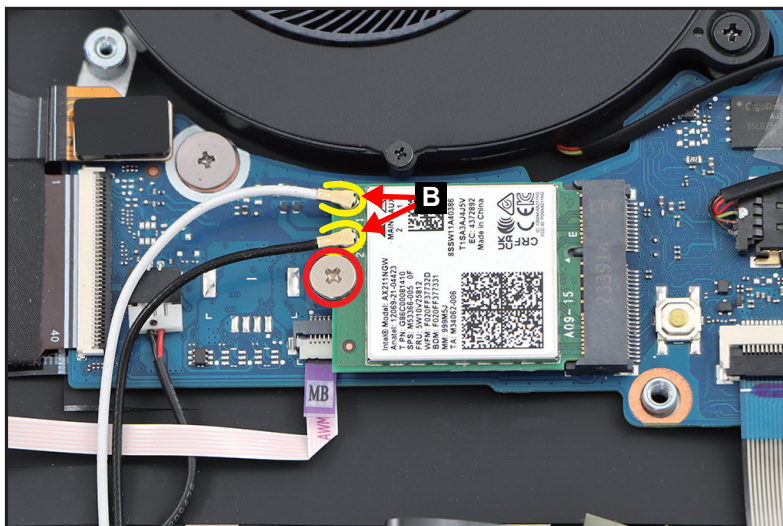

Figure 1-23. WLAN Module Removal
2. Disconnect the WLAN antennas cables from the WLAN module connectors (B) (Figure 1-23).
3. Remove one (1) screw securing the WLAN module in place (Figure 1-23).